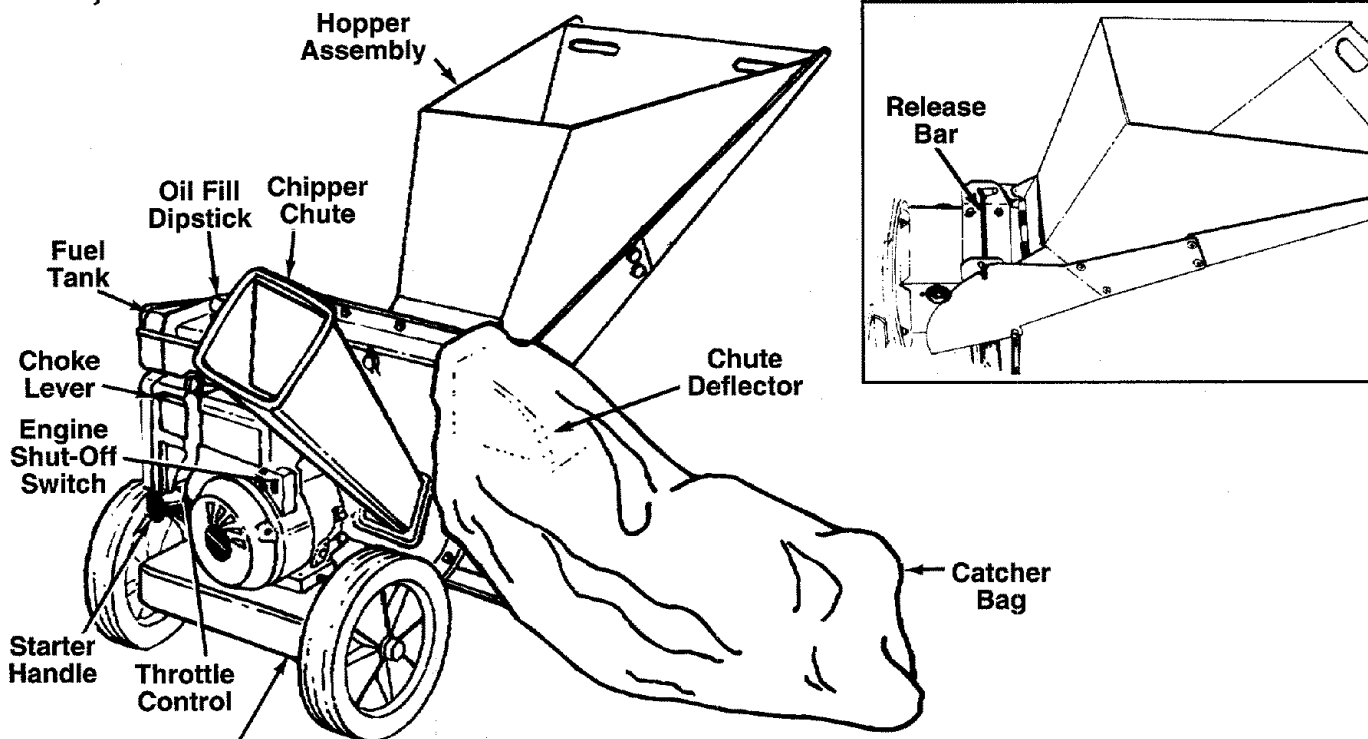

FIGURE 6. Front of Chipper-Shredder
NOTE: To determine right and left hand sides of your chipper-shredder, stand behind the unit with the engine the farthest away from you. See figure 6.
RELEASE BAR—Used to release the hopper when raising or lowering. See figure 6.
CHOKE LEVER—Used to enrich the fuel mixture in the carburetor when starting a cold engine. See figure 6 and 14.
STARTER HANDLE—Used to manually start the engine. See figure 6.
ENGINE SHUT-OFF SWITCH—Used to stop the engine. See figures 6 and 14.
THROTTLE CONTROL—Permits selection of fast or slow engine speed. See figures 6 and 14.
- Move engine shut-off switch to OFF position. See figure 6 and 14.